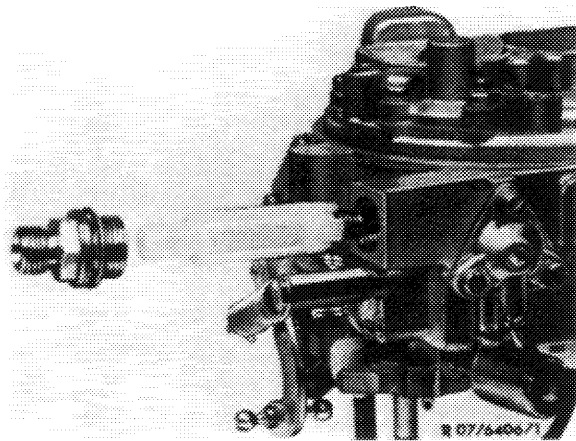

Fig. 07-26/12
4. The fuel feed is provided with a fuel strainer (Fig. 07-26/12).